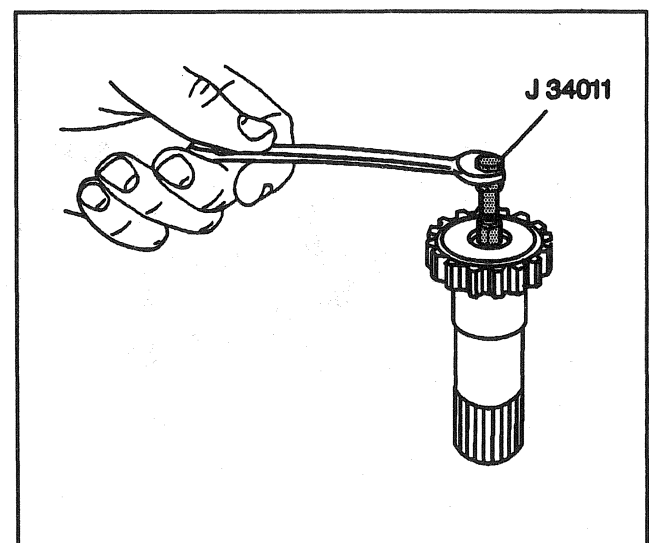

Figure 12—Removing the Pilot Bearing
12. Seal and output shaft bearing. Use J 29369-1 (K1, and K2 models) or J 29369-2 (K3 models) with J 29307 (Figure 12).
14. Differential pilot bearing. Use J 34011 (Figure 12).